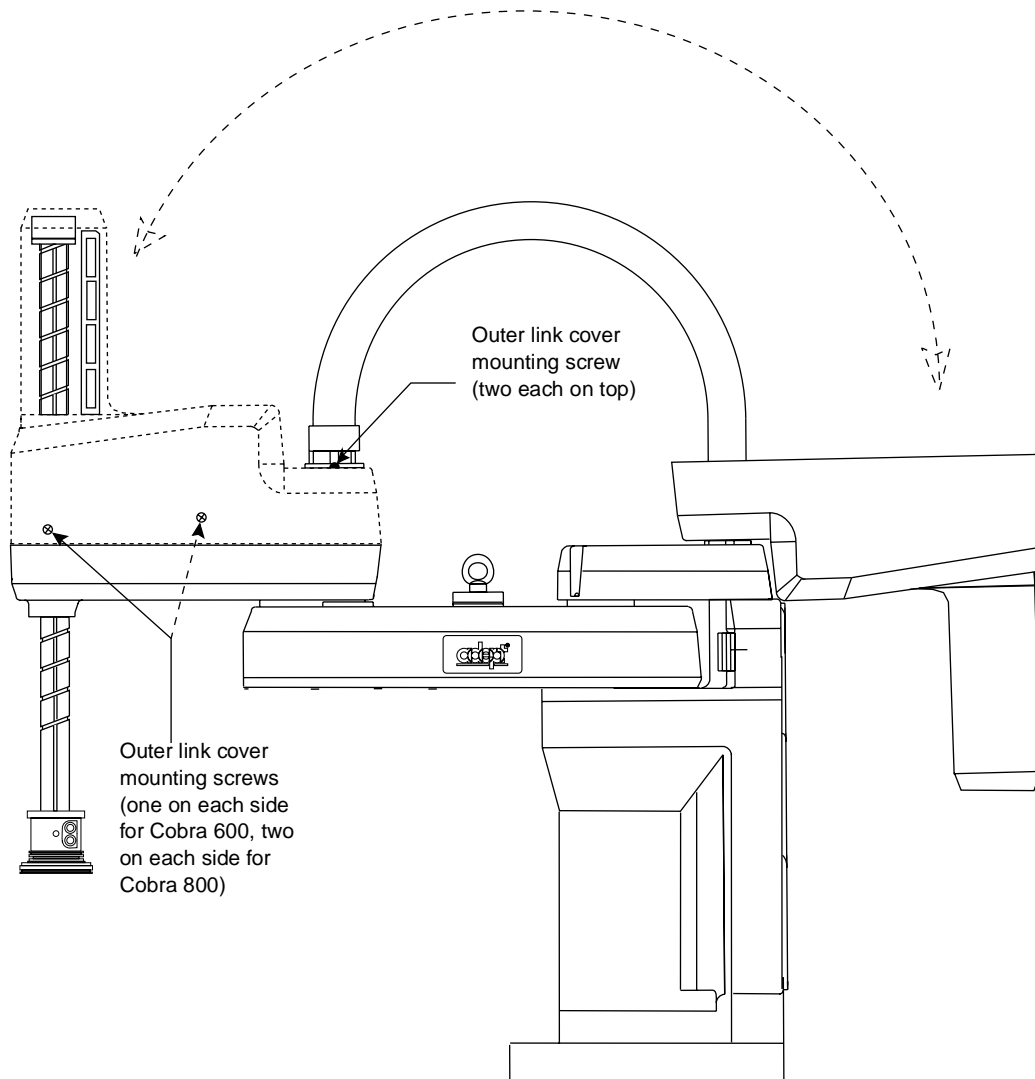

Figure 9-1. Outer Link Cover Removal
2. Using a Phillips screwdriver, remove the outer link cover by removing four screws on a Cobra 600 (six on the Cobra 800) located on the top and sides of the cover. Carefully lift the cover up (see Figure 9-1).